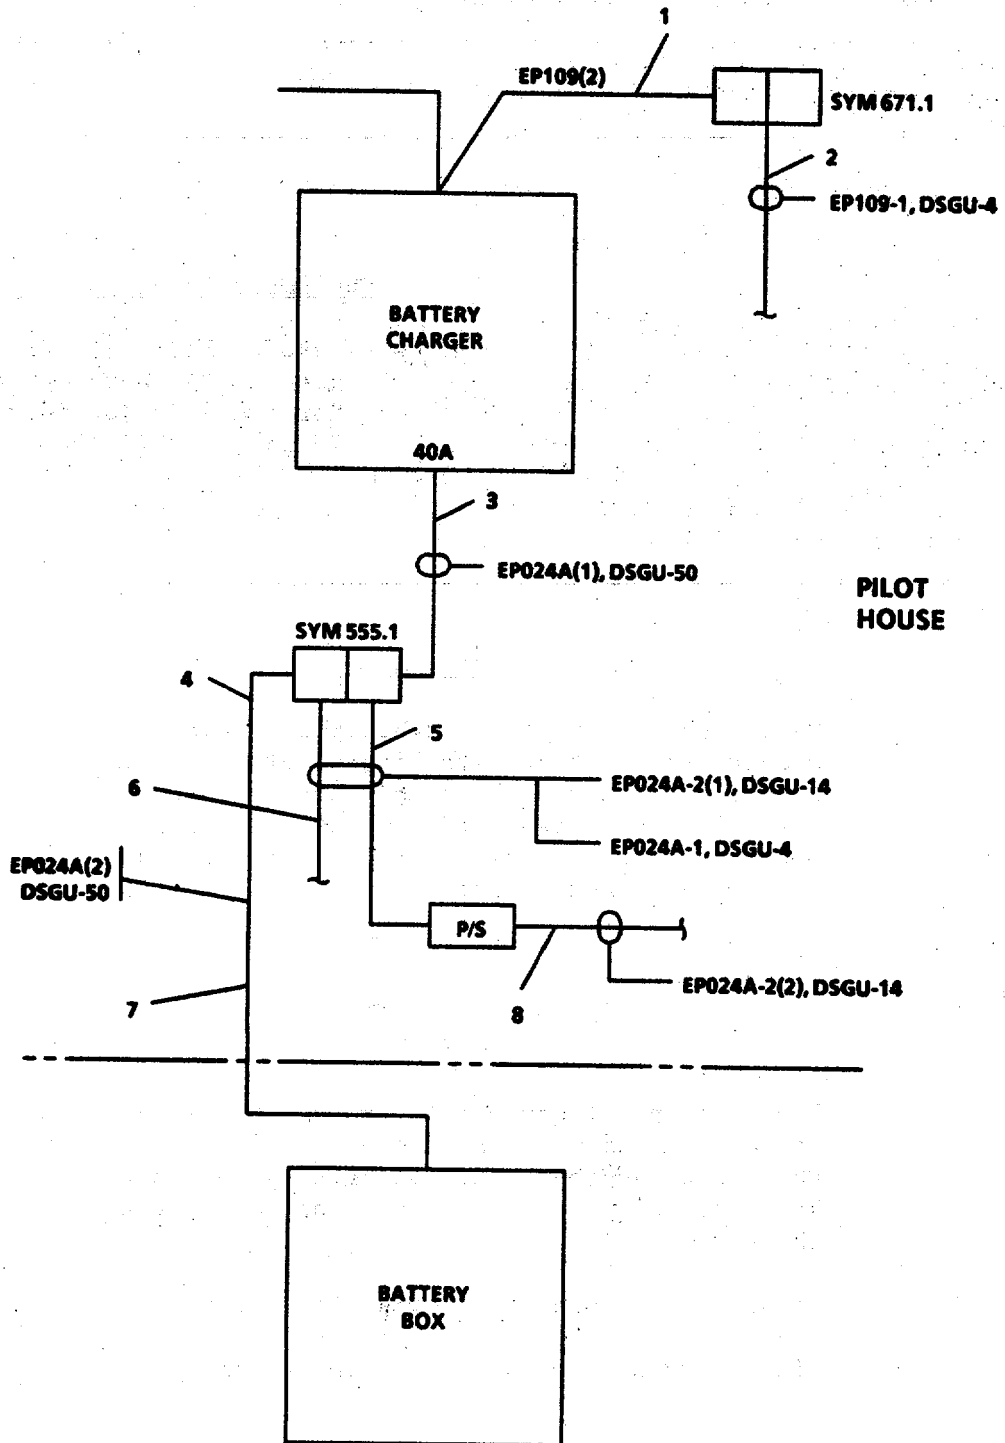

FIGURE 3-164. Pilot House Battery Assembly.
**3-181. Repair Pilot House Battery Assembly. (Figure 3-164)**